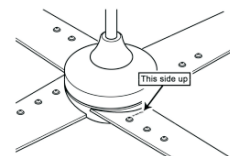

FIG.6
2. Before installing the blades, note the words "This side up" on the blades. (See fig.6)